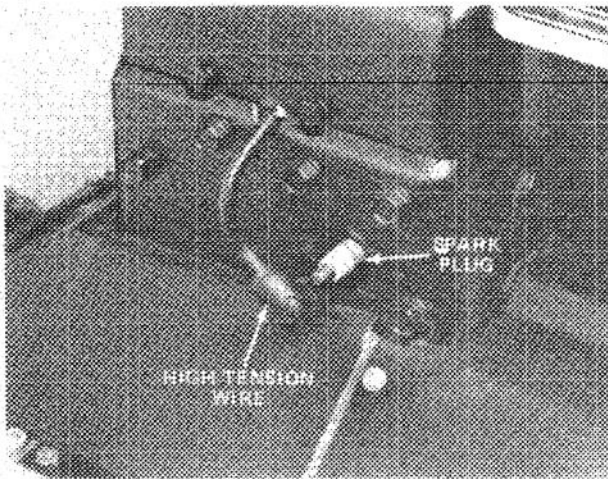

Figure 26
3. Pull high tension wire off spark plug and remove plug from cylinder head (Fig. 26).